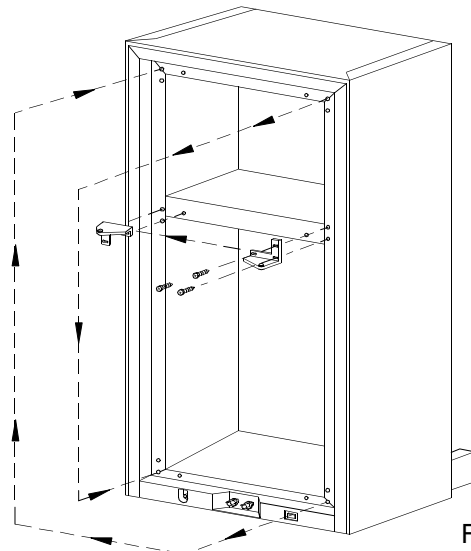

Figure 8
5. Remove the middle hinge bracket by using the #2 Phillips screwdriver and taking out the three screws holding it in place. Next, remove the three screws on the opposite side corresponding to the center hinge location. Relocate them in the holes just exposed by the removal of the hinge bracket. Attach the hinge bracket to the refrigerator where the hole plugs previously were. Do not tighten screws completely. (See Figure 8)